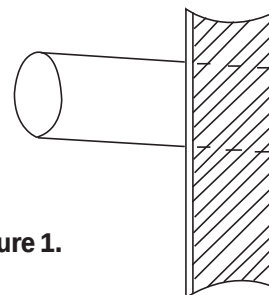

Figure 1.
- (1) Cut a hole in the wall and insert connection pipe and connecting wires through a locally purchased PVC pipe. The hole should be inclined slightly downward with an inclination of at least 1/100 (see Figure 1).